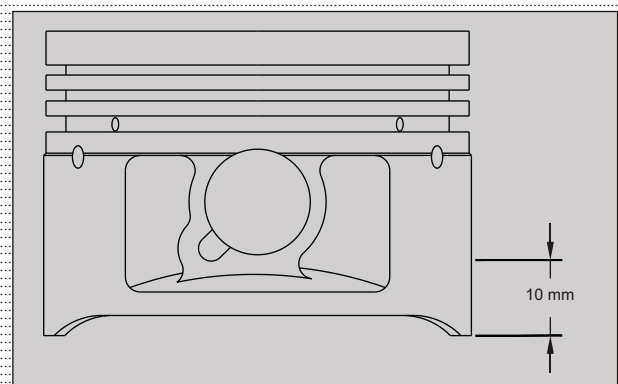

Fig. 3.164
- To check piston wear, measure the diameter at right angles to the pin piston and at a point which is 10 mm from the bottom. If diameter is less than the service limit, replace the piston. (Fig. 3.164)